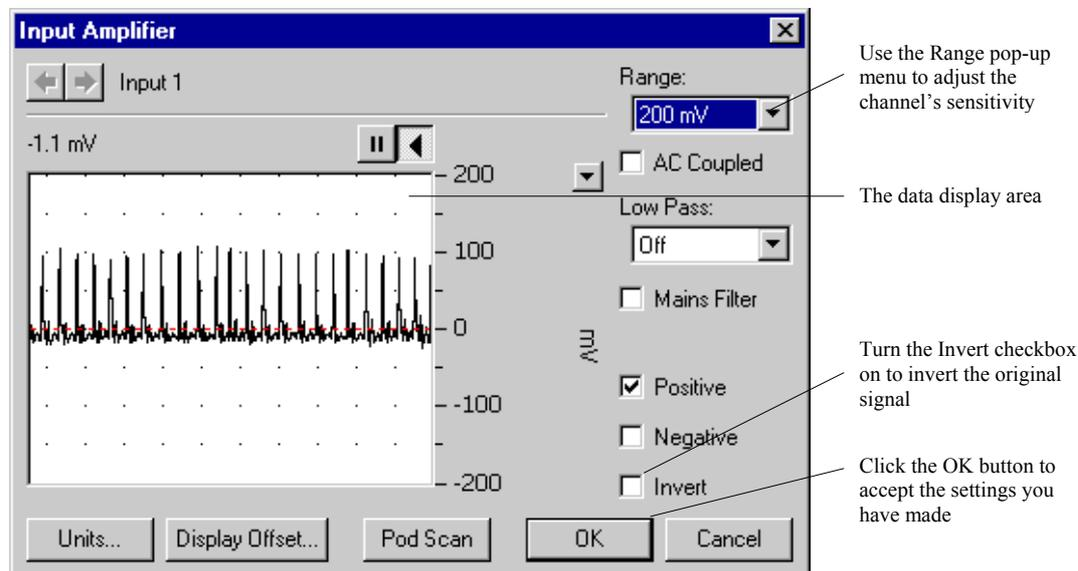

Figure 6. The Input Amplifier dialog box.
2. Select 200 mV from the Range pop-up menu: the signal trace now has a much larger deflection. Continue to adjust the range setting until the deflection fills about a third of the window (Figure 6). The signal from the pulse transducer has not changed, only the sensitivity of the recording system. If the rhythmic signal is a series of downward deflections, click in the Invert checkbox to reverse the direction. The size of the signal will vary from person to person.